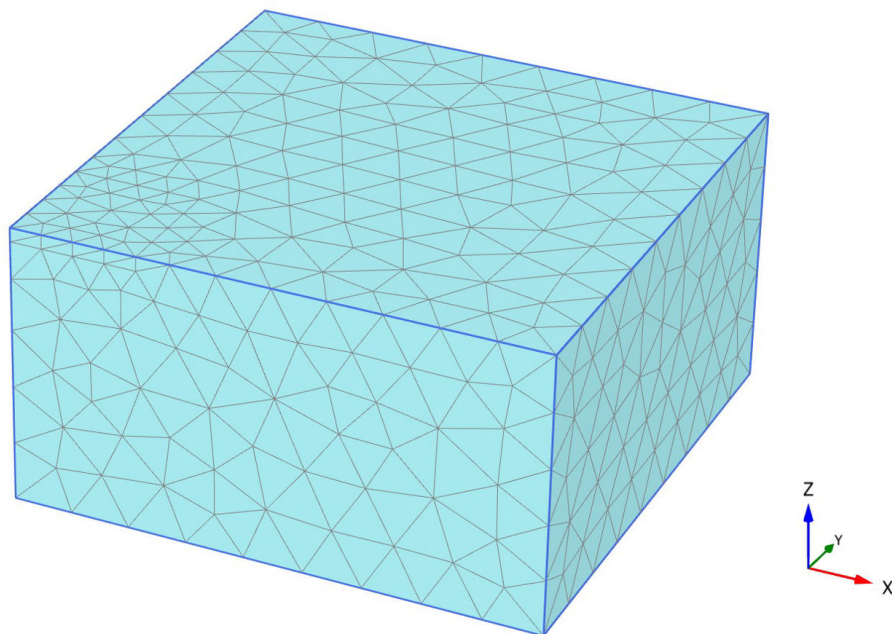

Figure 13: Generated mesh in the Output window
6. After the mesh is generated, click the **View mesh** button . A new window is opened displaying the generated mesh (see Figure 13 (on page 20)).